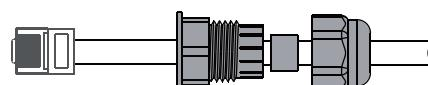

Figure 4.8-3 Remotely close the cable connection
Step 3-2 For Remote Shutdown. Run the cable through the steel plate , Then wire from pins 5 and 6. Table 4.5-1 describes the 6-pin port definition,Wiring is shown in Figure 4.8-3